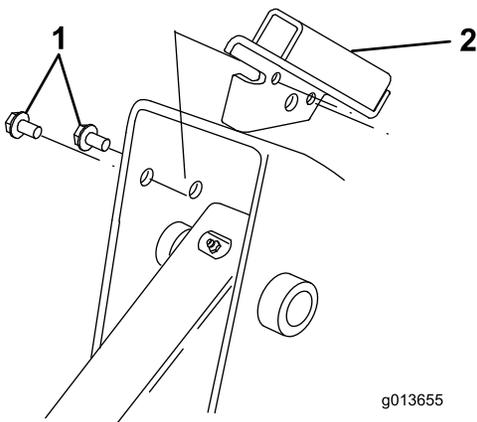

Figure 5
3. Align the tab on the shield bracket with the front edge of the frame with the bracket inside of the loader-arm pocket (Figure 5).
Note: There is a right and left bracket. Ensure that you install the correct bracket on each side. The tab should be over the frame edge and the bracket should be inside the loader-arm pocket with the 2 smaller holes in the bracket lined up with the holes you drilled in the frame (Figure 5).
4. Secure the bracket to the frame with 2 self-tapping screws as illustrated in Figure 5.